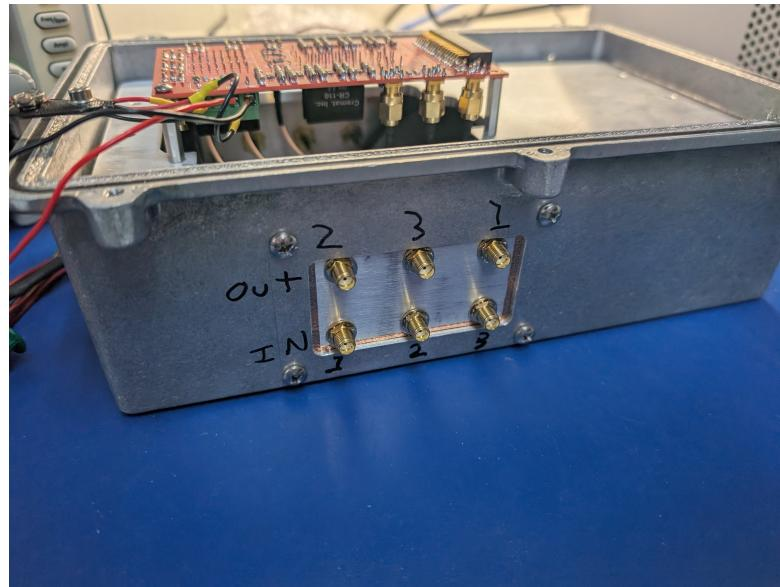

Figure 2: Input and Output Side View of enclosure
The SMA connectors supply test signals on the exterior of the enclosure as seen in Figure 2.
The SMA connectors read out the output signals on the exterior of the enclosure as seen in Figure 2.
2. Connect an SMA connector from the output of a function generator to the input of the channel desired to be tested. The input channels are the bottom row of SMA connections on the side of the enclosure, as pictured in Figure 2.